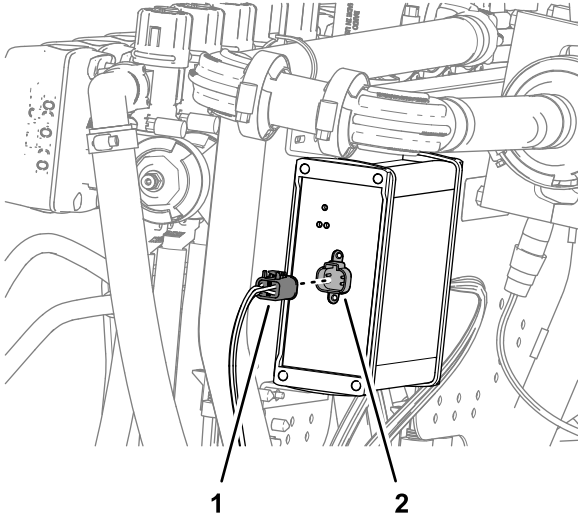

Figure 119
3. Insert the 4-socket connector of the kit sprayer harness labeled TO ASC 10 into the 4-pin connector of the ASC 10 spray controller (Figure 119).